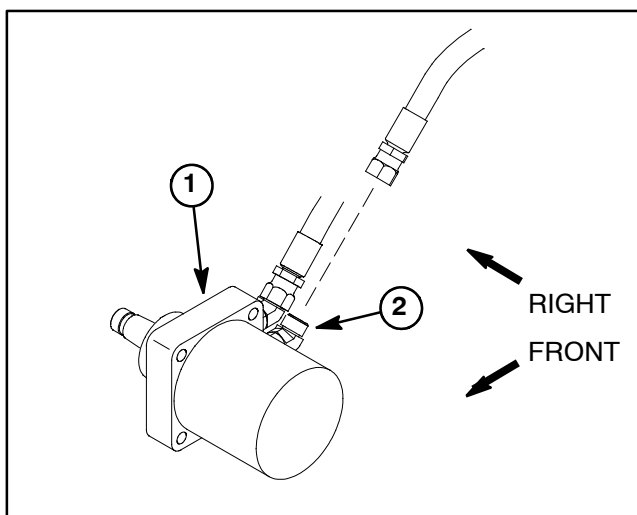

Figure 77
3. Thoroughly clean junction of hydraulic hose and lower fitting on rear wheel motor (Fig. 77). Disconnect hose from lower fitting on wheel motor.